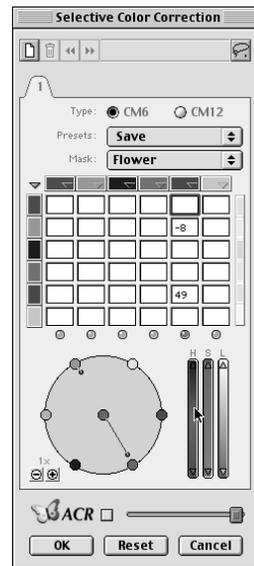

Figure 6.22
8. Adjust the settings in the Selective Color Correction window. Here I have decreased the saturation and lightened the selected color range. In Figure 6.22, the flower mask is visible in the Mask menu.